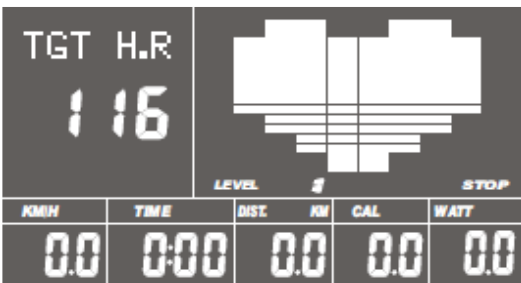

fig. 8
- F. Lastly the target heart rate will flash, press **UP** or **DOWN** to set up your target heart rate. Press **ENTER** to confirm the value. (See fig. 8)